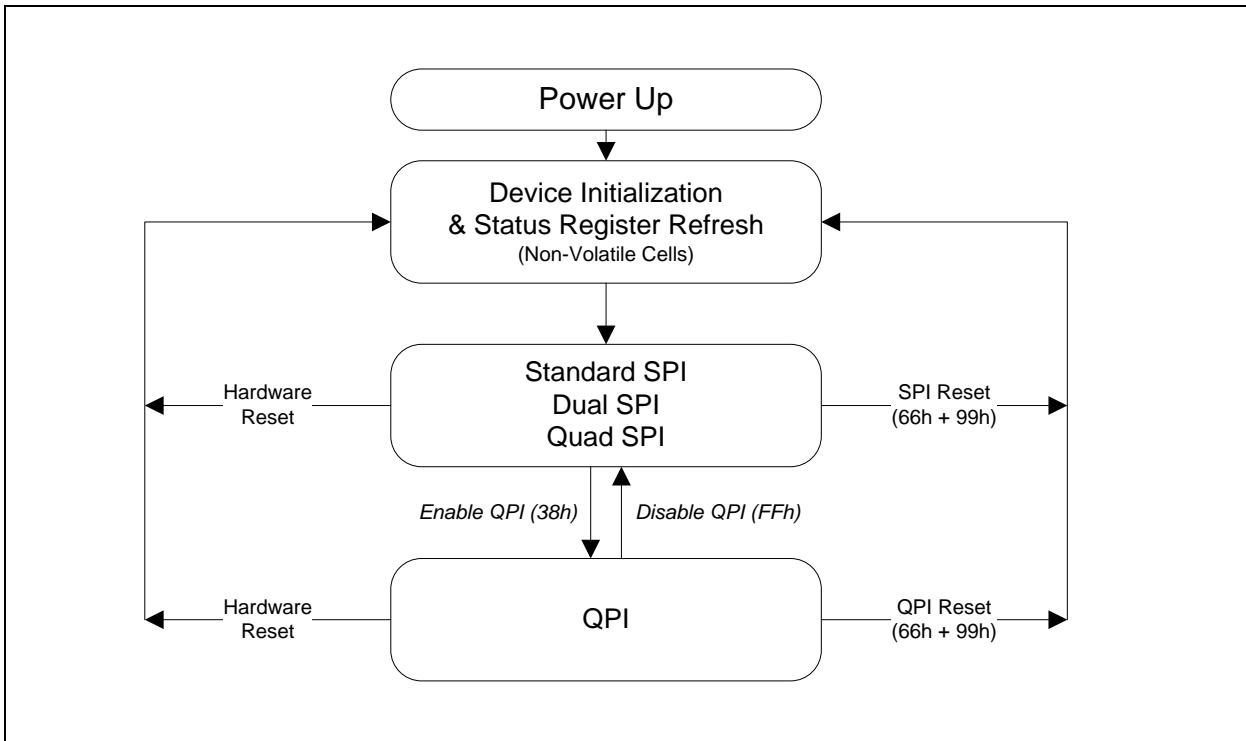

Figure 3. W25Q16FW Serial Flash Memory Operation Diagram
The W25Q16FW supports Quad Peripheral Interface (QPI) operations only when the device is switched from Standard/Dual/Quad SPI mode to QPI mode using the "Enter QPI (38h)" instruction. The typical SPI protocol requires that the byte-long instruction code being shifted into the device only via DI pin in eight serial clocks. The QPI mode utilizes all four IO pins to input the instruction code, thus only two serial clocks are required. This can significantly reduce the SPI instruction overhead and improve system performance in an XIP environment. Standard/Dual/Quad SPI mode and QPI mode are exclusive. Only one mode can be active at any given time. "Enter QPI (38h)" and "Exit QPI (FFh)" instructions are used to switch between these two modes. Upon power-up or after a software reset using "Reset (99h)" instruction, the default state of the device is Standard/Dual/Quad SPI mode. To enable QPI mode, the non-volatile Quad Enable bit (QE) in Status Register-2 is required to be set. When using QPI instructions, the DI and DO pins become bidirectional IO0 and IO1, and the /WP and /HOLD pins become IO2 and IO3 respectively. See Figure 3 for the device operation modes.